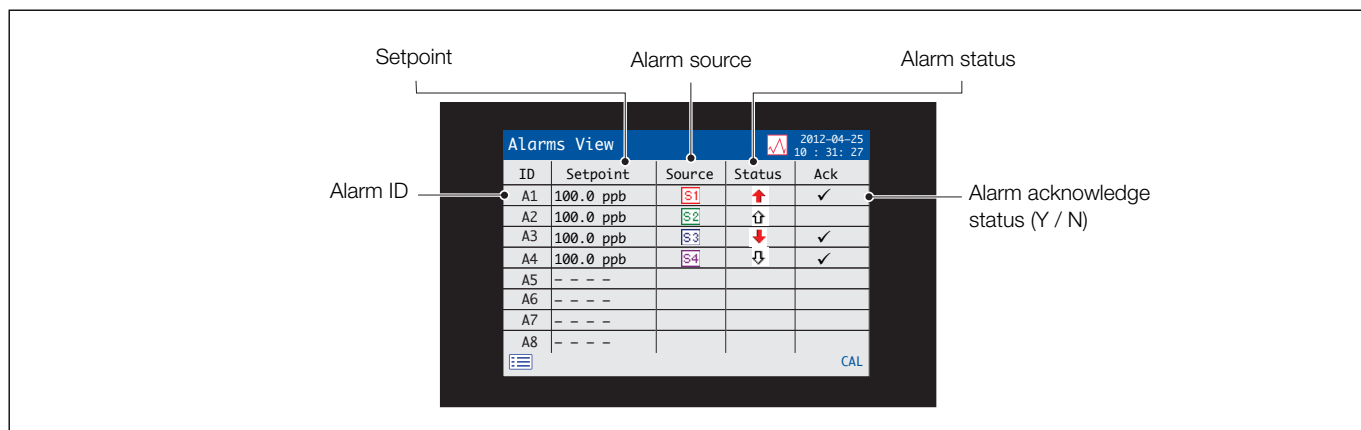

Fig. 6.7 *Alarms View*
- *Alarms View* – displays a list of alarms identified by priority (sequence number), source and status – see Fig. 6.7